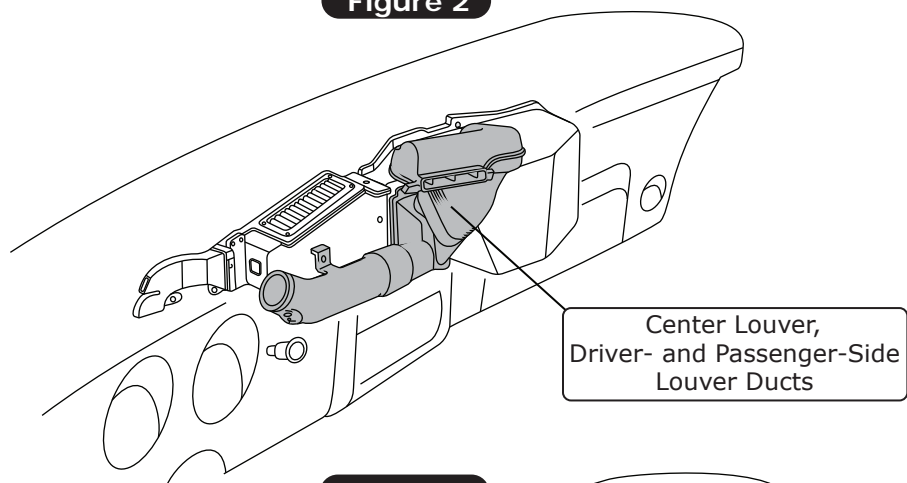

Figure 3
20. Remove the center louver, and the driver & passenger side louver ducts (discard) (See Figure 3, below).